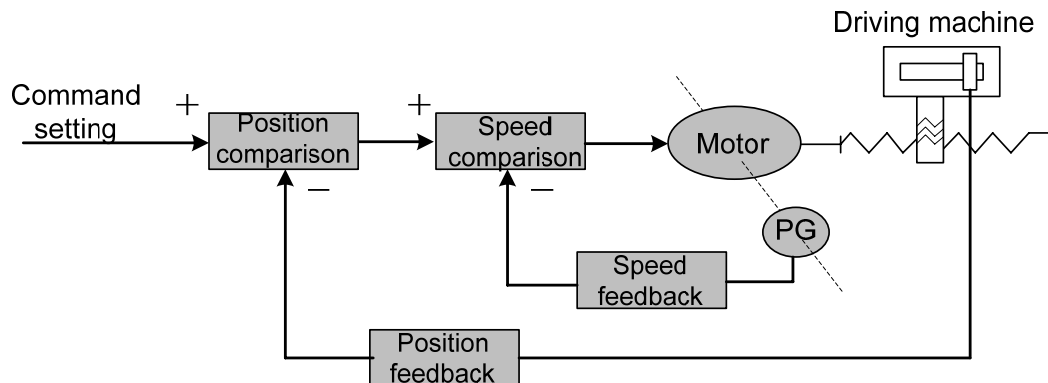
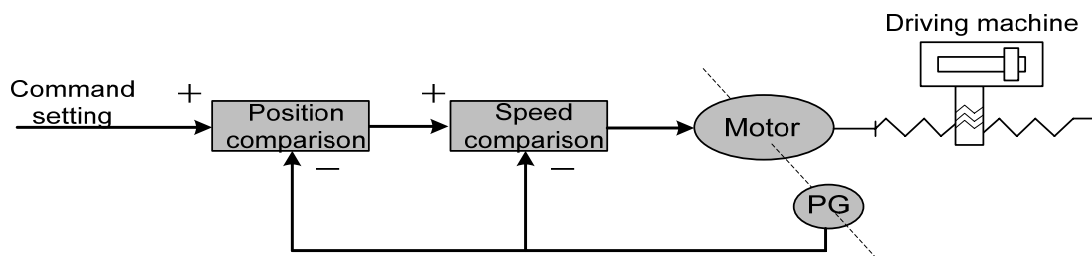

Figure 1-4 Full-closed loop control
Figure 1-5 Semi-closed loop control
- **Closed-loop control:** The controlled variable of the control system is detected and transferred to the controller by the feedback device to affect the output of the controller and thereby to change the controlled variable. Closed-loop control is classified as **full-closed loop control** and **semi-closed loop control** by the detection points. The feedback device's direct detection of the controlled variable and use of it for feedback is called full-closed loop control (e.g. Figure 1-4) and the position of the gear is the controlled variable. The full-closed loop control over the position of the gearing is achieved by using the grating mounted on the gearing as a position feedback device and the encoder for the servomotor as a speed feedback. In the absence of the grating, the encoder for the servomotor is used as a position and speed feedback (see Figure 1-5). In this case, this is the semi-closed control